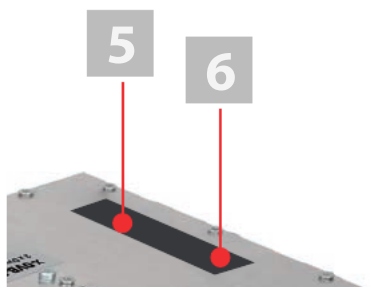

Figure 4: CI module
1. Insert the respective channel filter into the slot provided for this purpose (see figure 4). Pay attention to the A or B marking which appears on the device sticker. The filters can be activated using the HE programming software (see section "Programming using the HE programming software").